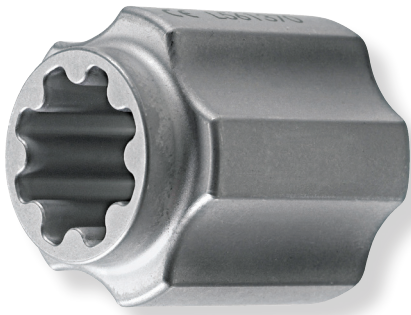

Figure 23a
- The **articulating arm knob** instrument may be used to tighten the articulating arm to the retractor (**Figure 23a**).